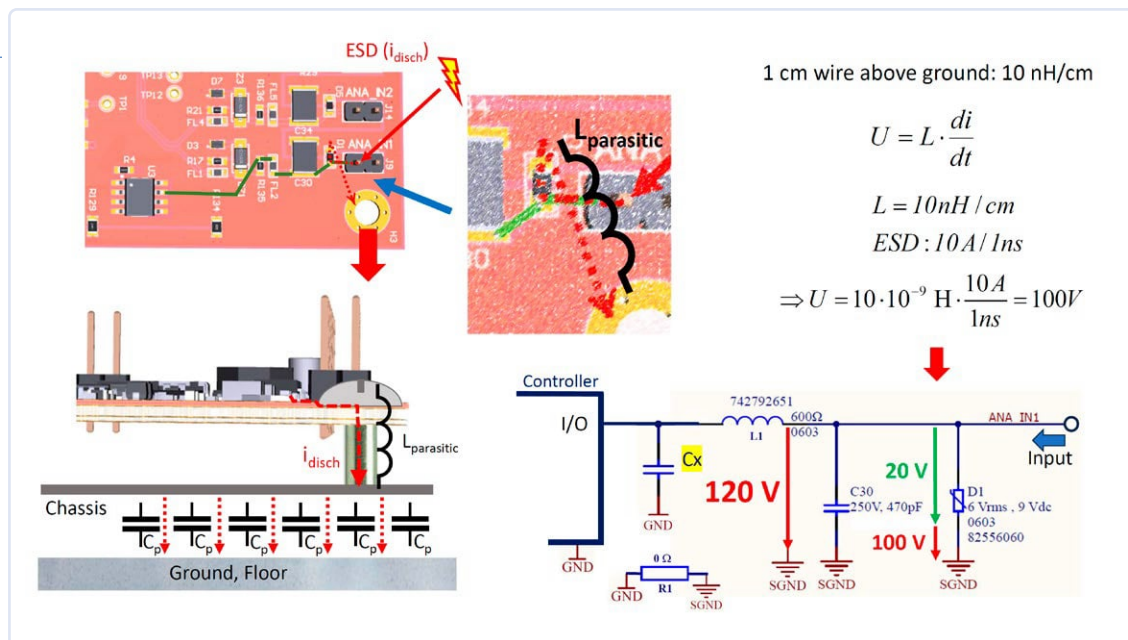

Figure 4: Filter in the interface area with associated ground concept.
3. **Filtering at interfaces, earthing and grounding:** The use of filters such as low-pass filters and, if necessary, band-pass filters with transient protection helps to remove or attenuate unwanted frequencies and keeps high-frequency interference and transient overvoltages away from the device’s internal electronics. **Figure 4** shows an example of a filter concept at interfaces.
The π-filter has a varistor at the input to limit transient overvoltages. The reference earth for the surge arrester must be the interference potential, i.e., the housing plate and above it the capacitance to the housing base. Figure 4 shows the effect of a parasitic inductance in the supply line to the varistor. A parasitic inductance of just 10 nH increases the clamping voltage by 100 V if, for example, an ESD pulse with a current of just 10 A is used as a basis. On the controller side, filters and, if necessary, additional voltage-limiting components must be connected to the GND reference of the controller! SGND and GND are connected to each other at suitable points in the layout via zero Ω resistors, SMD ferrites or capacitors. For further explanation of the effectiveness of the ground concept, please refer to the reference design RDO16 [3].